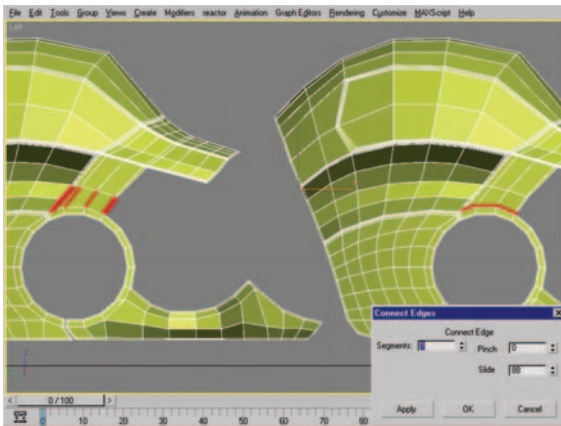

Figure 8.72 Edge selection and resulting mesh after using the Connect dialog to create a new row of edges.
71. Select the edges seen in Figure 8.72 (left) and use the Connect setting dialog box with a Slide value of 88 to create a new row of edges as seen in Figure 8.72 (right).